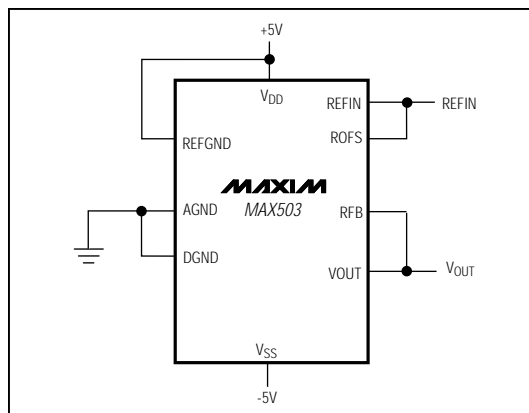

Figure 12. Four-Quadrant Multiplying Circuit
The MAX503 can be used as a four-quadrant multiplier by connecting ROFS to REFIN and RFB to VOUT, and using (1) an offset binary digital code, (2) bipolar power supplies, and (3) a bipolar analog input at REFIN within the range $V_{SS} + 2V$ to $V_{DD} - 2V$, as shown in Figure 12.